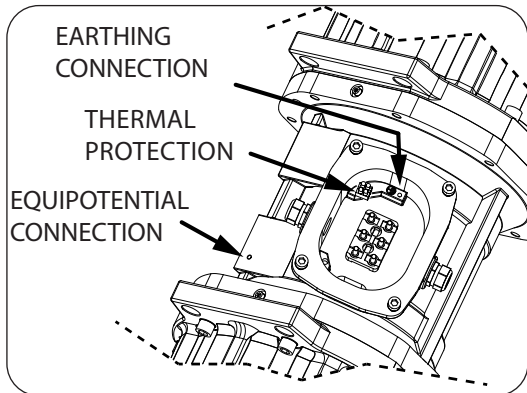

Fig.7
The connection elements for the earthing and for the equipotential connection (Fig.7) must allow for the effective connection of at least one conductor, whose cross-section must match the value reported in the table below. Motovibrators from size 75 to size 85 are fitted with 130°C (Rating 1,6A ÷ 7,5 A) thermal protection. For the connection refer to diagrams M17 and M18. The protector model and other data are stamped on the designated warning label on the vibrator itself.
- The nuts of the pins must be tightened to the torque reported in the table (Fig.7 page M.15).
For the equipotential connection of the motovibrator, earth the machine by using the designated terminal on the casing (Fig.7).